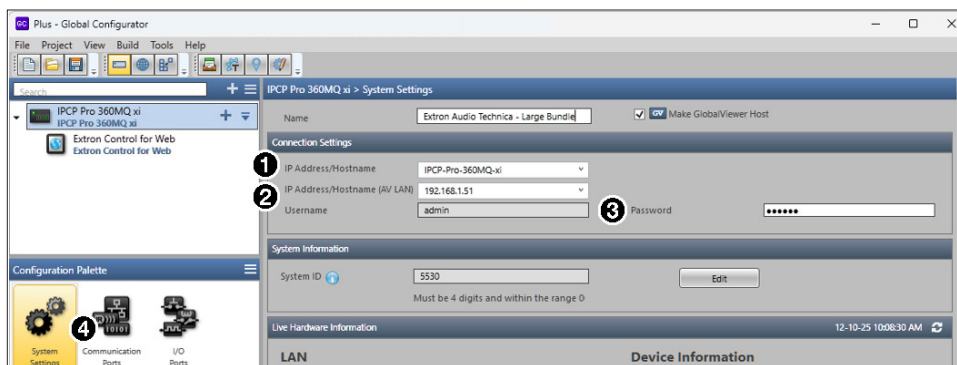

Figure 34. Configuration View — System Settings page for Control Processor
2. Set the IP address (see figure 34, ❶), IP address for AV LAN (❷), and Admin password (❸) of the Control Processor.